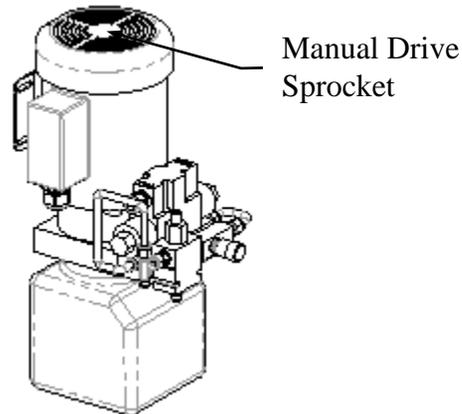

Figure 8 - Manual Drive Sprocket on 775Hx series.
- 3.5.6. Place the provided speed wrench on the screw head located on the top of the electric motor and turn it in the direction of the arrow. This drives the hydraulic pump and raises the arm. See **Figure 8 - Manual Drive Sprocket on 775Hx series**.